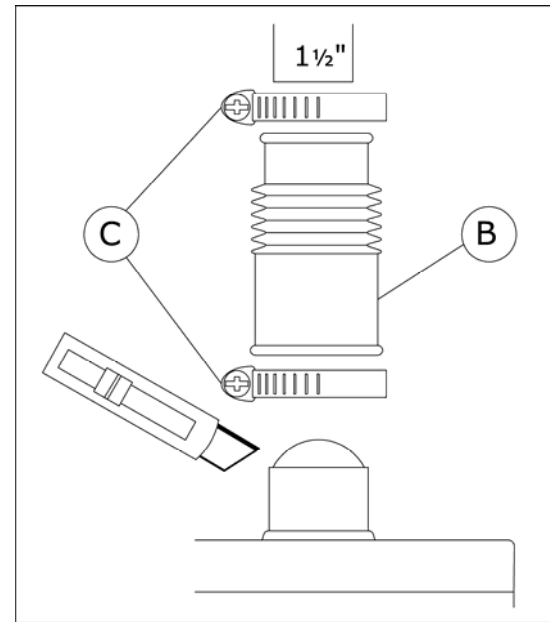

Figure 2
1. Cut the top of the tapping (see fig. 2) with a saw and remove the burrs.
2. Slip the accordion connector (B) (1 ½ x 1 ½ inch) over the tapping and secure with a gear clamp (C).